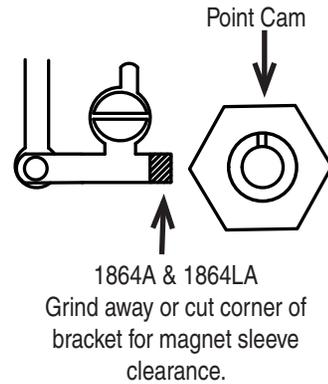

Figure 1
- Note:** Part numbers 1864A & 1864LA modification required. (See Figure 1).